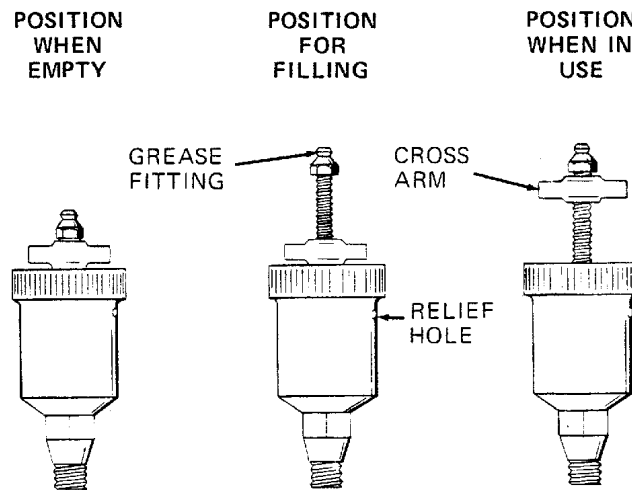

Figure 3. Automatic Lubricating Grease Cup
Before removing the seal assembly, turn the cross arm on the seal grease cup (17) clockwise until it rests against the cover (see figure 3). This will prevent the grease in the cup from escaping after the seal is removed.
Before starting the pump, fill the grease cup through the grease fitting with a good grade of No. 2 pressure gun grease until grease escapes from the relief hole. Turn the grease cup arm counterclockwise until it is at the top of the stem; this will release the spring to apply grease to the seal (see figure 3).